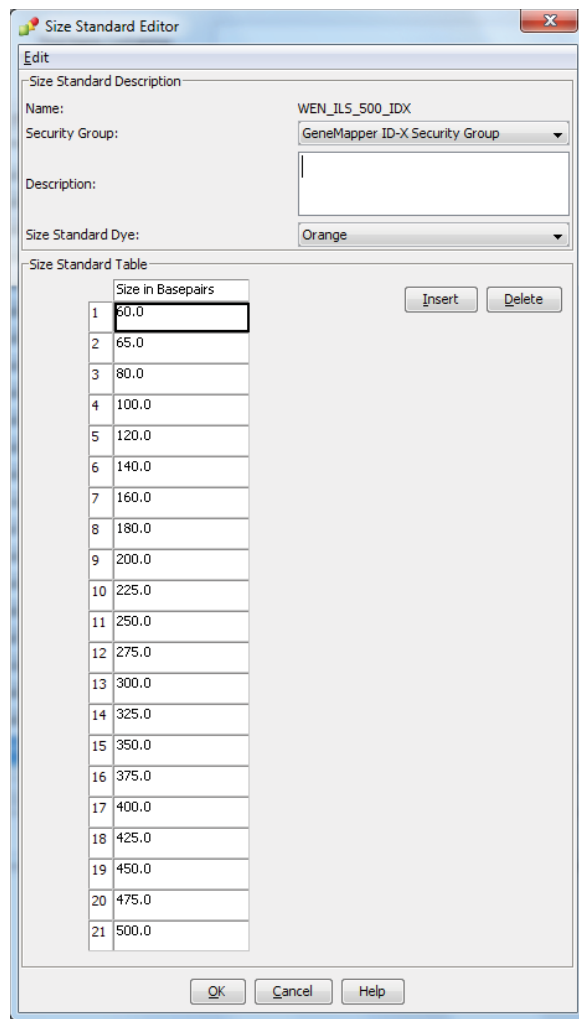

Figure 13. The GeneMapper® ID-X Size Standard Editor.
4. In the 'Size Standard Editor' window (Figure 13), select **GeneMapper ID-X Security Group** as the Security Group. This allows access for all users of the software. Other security groups may be used.